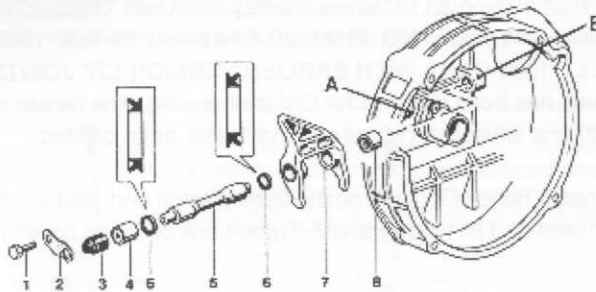

Figure 4
6. Guide the closed bearing (8 in figure 4) on the release lever shaft and tap bearing into support B. Remove release lever shaft and lubricate bearing with Olista Longtime 3 EP.
9. Install both seals (6 in figure 4) on release lever shaft. **Check installed direction of seals** (figure 4). Lubricate bearing (4 in figure 4) with Olista Longtime 3 EP and install on release lever shaft.
11. Fill cover (3 in figure 4) with Olista Longtime 3 EP and install in bearing support A. Install holder and bolt (1 in figure 4).